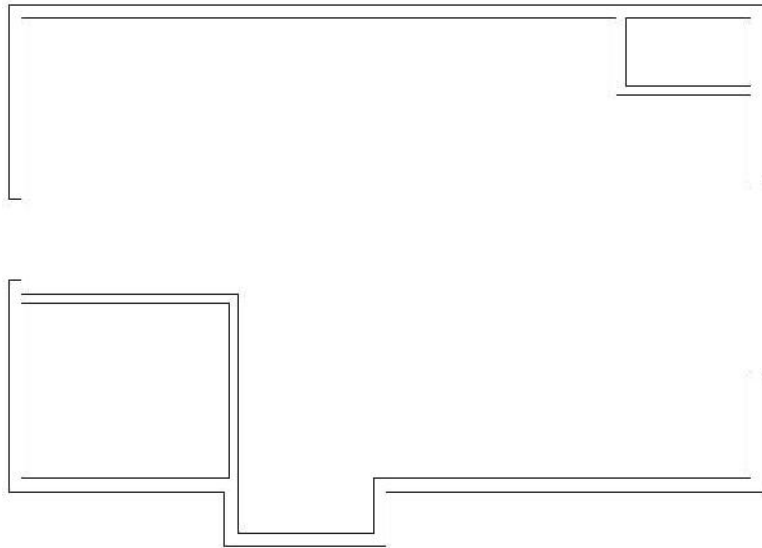

FIGURE 4.32: The cabin with the 7'-0" (2134 mm) sliding door opening
4. Use the Trim Fence option to clean up the 3'-0" opening to complete the opening. Your cabin should look like Figure 4.32.